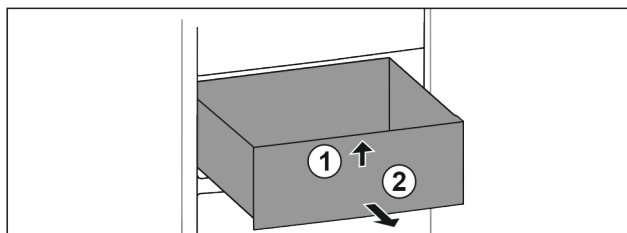

Fig. 14
- Lift at the front *Fig. 14 (1)*.
- Take out to the front *Fig. 14 (2)*.